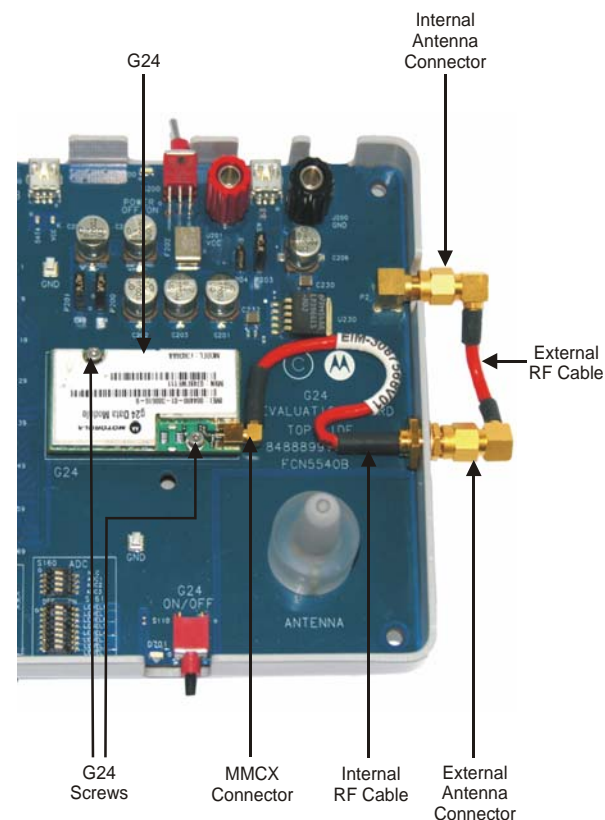

Figure 2-2: Connecting the G24
1. Place the G24 (Figure 2-2) on the Developer Board area, marked by a white rectangle, and push the G24 70-pin connector down into the G24 70-pin connector on the Developer Board.
3. Connect the internal RF cable MMCX connector to the MMCX connector of the G24 by pushing it in until it clicks (Figure 2-2).
5. Connect the external RF cable between the External Antenna Connector and the Internal Antenna Connector (Figure 2-2).
*The Developer's Kit arrives configured to operate with its on-board internal antenna. The **EXT ANT** and **INT ANT** connectors are connected together using an external RF cable, on the board's right side (Figure 2-2, on page 8).*